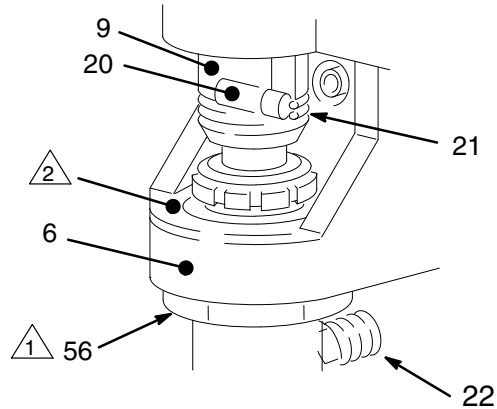

Fig. 32
1. Screw the pump 3/4 of the way into the bearing housing (6). Hold the pin (20) up to the pin hole in the connecting rod (9) and continue screwing in the pump until the pin slides easily into the hole. See Fig. 32.
2. Align the top threads of the pump cylinder flush with the face of the bearing housing and so the outlet nipple (22) is straight back. See Fig. 32.
Be sure the retaining spring (21) is firmly in the groove of the connecting rod, all the way around, to prevent it from working loose due to vibration. Refer to Fig. 32.
3. Push the retaining spring (21) into the groove of the connecting rod, all the way around. Tighten the locknut (56) very tight – 95 N.m, to prevent it loosening and damaging the threads of the bearing housing. See Fig. 32.